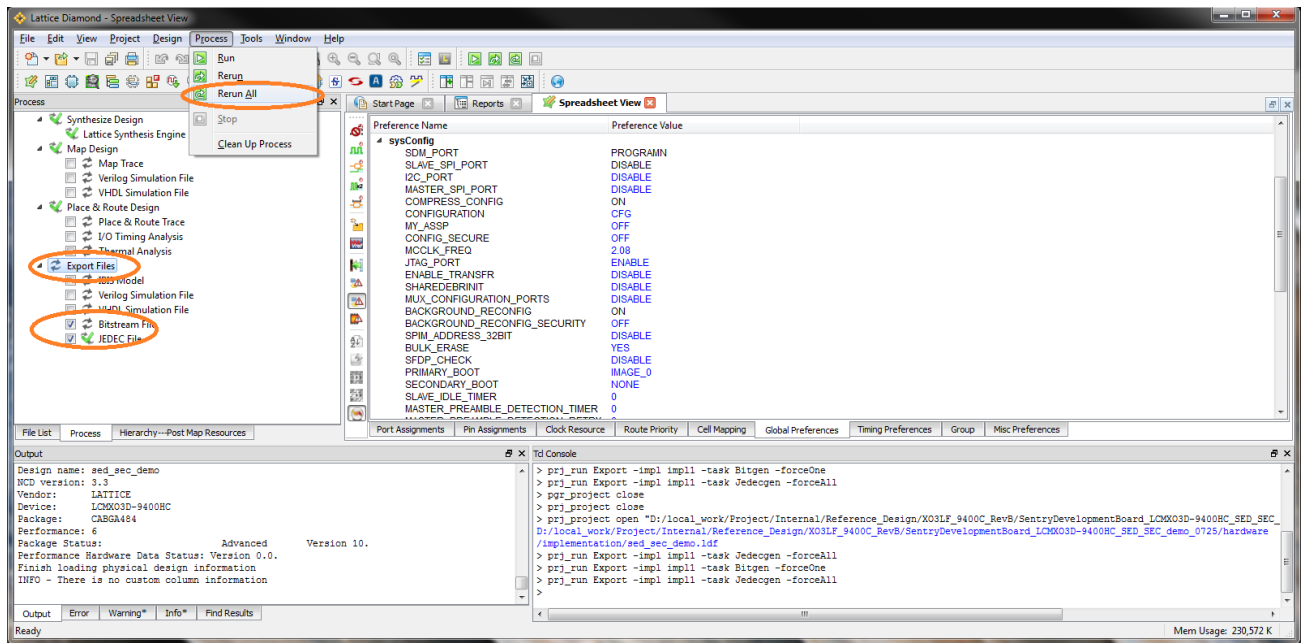

Figure 7.4. Generate the Bitstream
- In the Process view, under the Export Files process, select the **Bitstream File** and **JEDEC File** checkboxes, as shown in Figure 7.4.